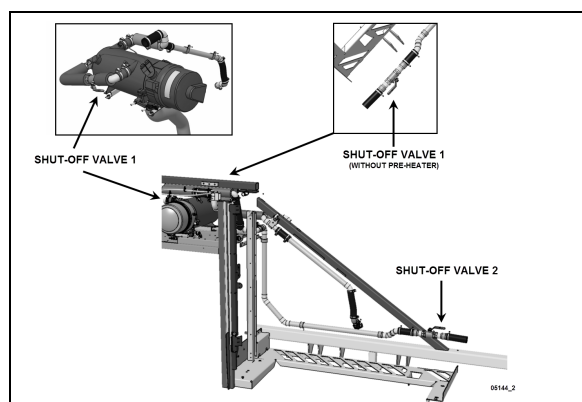

FIGURE 78: H3 SERIES HEATER LINE SHUTOFF VALVES
3. Close the hot water lines shutoff valves located next the engine on street side (see Figure 77 or Figure 78).
2. Close both heater line shutoff valves (Figure 77 or Figure 78). One is located in the engine compartment, lower road side, near the radiator while the other one is located behind the L.H. hinged rear fender near the preheater.